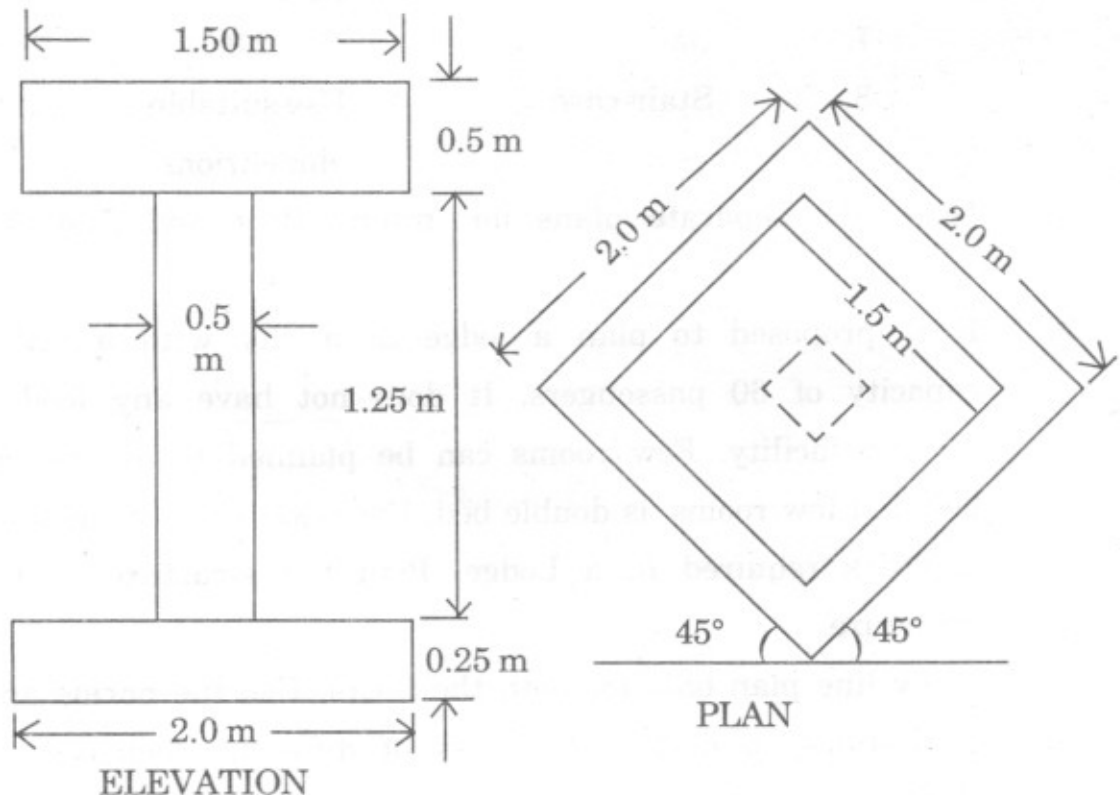

Fig. 2
11. Draw to scale 1 : 100 or any suitable, a two point perspective view for the sketch shown in Fig. 2.